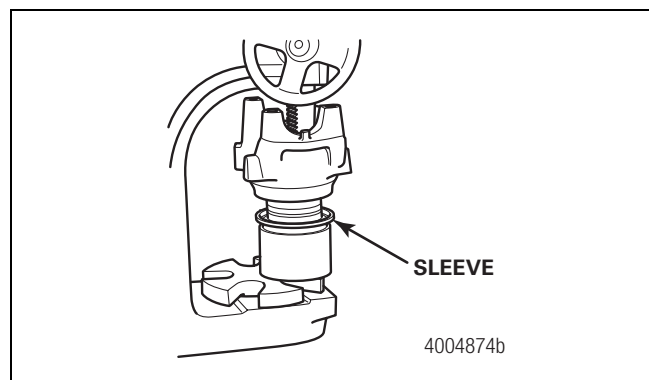

Figure 6.21
5. Apply a light coat of axle oil to the yoke seal journal. Position the sleeve into the yoke sleeve driver. Do not touch the greased areas of the sleeve. The sleeve must be kept clean prior to assembly into the seal. Use an arbor press and the appropriate driver to install the sleeve into the yoke. Verify that the sleeve is fully seated in the yoke to prevent damage to components. Figure 6.21.